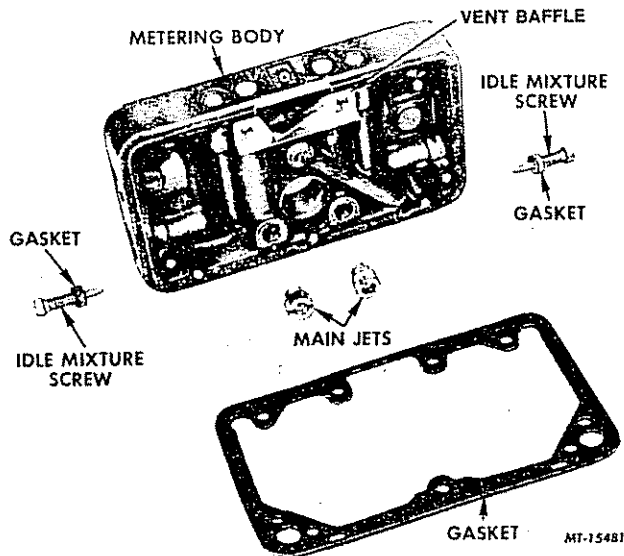

FIG. 29 — PRIMARY METERING BODY, FUEL BOWL SIDE (DISASSEMBLED VIEW)
7. Remove gasket and main metering jets using  $\frac{3}{8}$ " wide screwdriver or proper jet socket (Fig. 29).
8. Count and record exact number of "clockwise" turns to seat each screw lightly. The same number of turns must be maintained from the seat upon reinstallation. Remove screws and gaskets from metering body. Remove vent baffle (Fig. 29).
1. Install idle mixture screw gaskets in passages. Use head of screw to push into place. *NOTE: Inspect mixture screws. If the tapered portion is grooved or ridged, a new mixture screw should be installed to insure ability to maintain the correct idle mixture. Turn screws in lightly against their seats. Back each screw out the exact number of turns recorded during disassembly (Fig. 29).*
3. Install main metering jets using proper screwdriver or jet wrench (Fig. 29).
4. Install fuel baffle (if used). Press metering body and fuel bowl gasket down firmly on the dowels (Fig. 29).